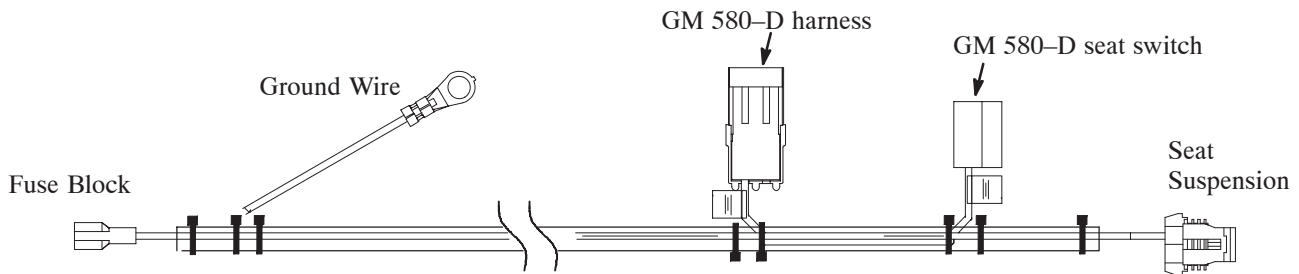

Figure 9
12. Connect the air ride wire harness to the traction unit (Fig. 9) as follows:
- Plug the air ride harness connector into the air ride seat suspension wire connector (Fig. 9).
- Plug the air ride harness connector labeled "580-D seat switch" into the seat switch wire connector (Fig. 9).
- Plug the traction unit harness connector into the air ride harness connector, labeled "580-D harness" (Fig. 9).
- On machines prior to Model 30582, plug the air ride harness spade terminal into the innermost spade terminal of the new fuse block (Fig. 9).